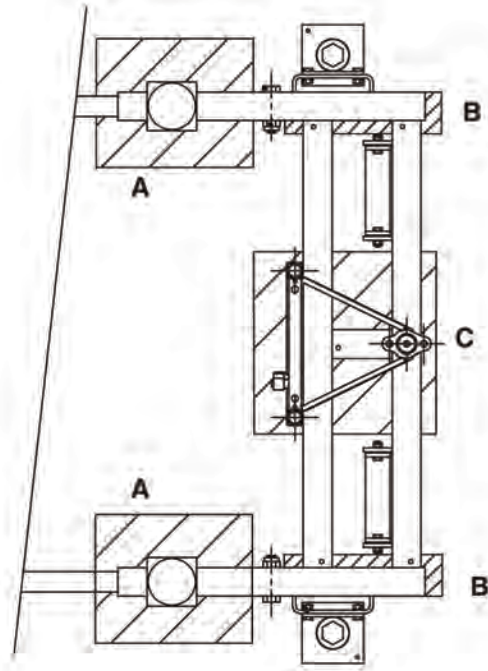

Fig.6-01 Positioning the ground support
- The ground support must be level and loaded centrally (fig. 6-01).